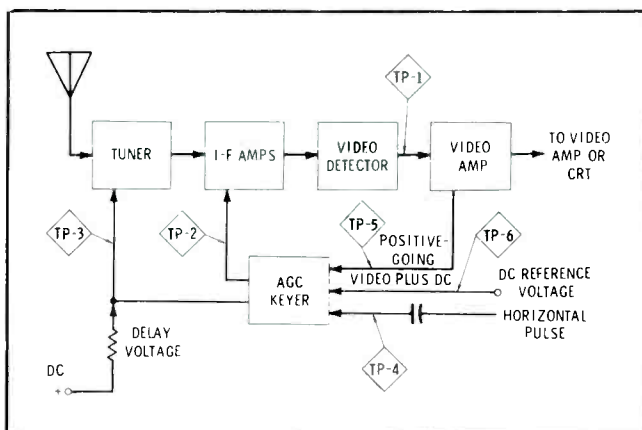
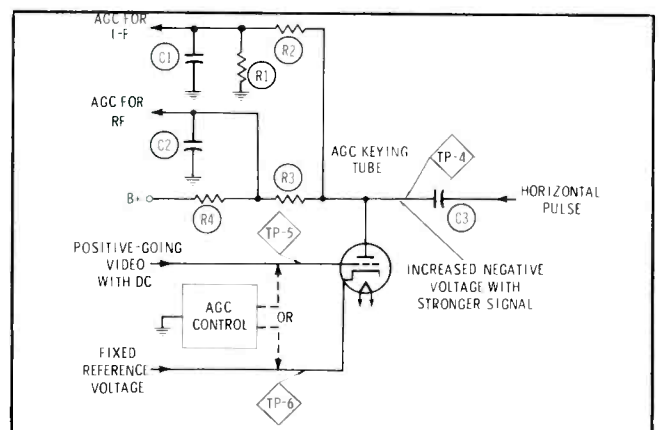

Fig. 1 Block diagram showing the closed loop of a typical AGC system used in an all-tube chassis.
Fig. 2 Simplified schematic of a typical AGC keyer circuit.
Fig. 2 Disconnect feedback and test vertical sweep section as you would cascaded amplifiers. (A) No vertical sweep. (B) Plate-drive signal checks output tube. (C) Grid-drive signal
All of the circuits shown in the block diagram of Fig. 1 are required to provide at the video detector an undistorted video signal of the desired waveform, phase, amplitude, bandwidth and signal-to-noise ratio. The best system of tests for AGC trouble **must** include this vital detector signal.
The best method I know for analyzing AGC problems was detailed starting on page 42 of the January, 1970 issue of *ELECTRONIC SERVICING*. Briefly stated, this method consists of measuring, while a station is tuned in, the DC voltages at three of the test-points shown in Fig. 1. These are:
Two nearly separate paths exist for the AGC voltages applied to the RF and IF stages. Both voltages originate at the plate of the AGC keying tube; then they separate, as shown in Fig. 2. The reason why this is good engineering will be discussed later. The important point is that the existence of two AGC voltages helps us more closely pinpoint the origin of the defect. For example, if a defect reduces the AGC voltage applied to the IF section, the AGC circuit will increase the DC voltage at the plate of the keyer tube, which in turn, increases the AGC voltage supplied to the RF amplifier. Conversely, a defect which increases the voltage applied to the RF amplifier AGC circuit, automatically will reduce the AGC voltage which is applied to the IF amplifier. It works both ways. In either case, overload might be avoided, but an abnormal condition is established whose result is a poor signal-to-noise ratio (snow).
toms and the DC voltages present at TP-1, TP-2 and TP-3 (Fig. 1). Total failure of the AGC keyer in Fig. 2 is indicated.
Notice in Fig. 2 that the grid has video signal with DC and the cathode has DC without video (in most cases). The instantaneous tube bias depends upon the difference in DC voltage of grid and cathode plus the peak voltage of the video.